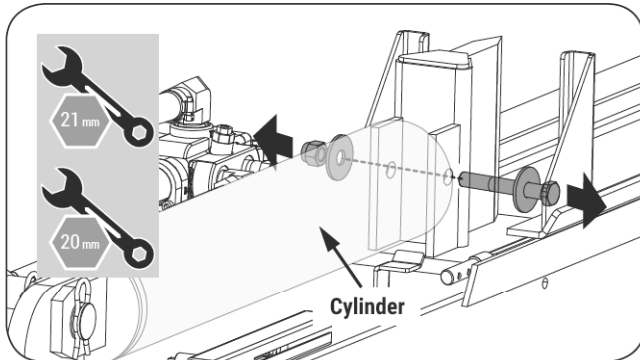

Figure 1a
1. Remove the bolt, washers and nut, which connect the wedge with the cylinder. (See **Figure 1a.**) Keep the removed hardware set aside for later use.